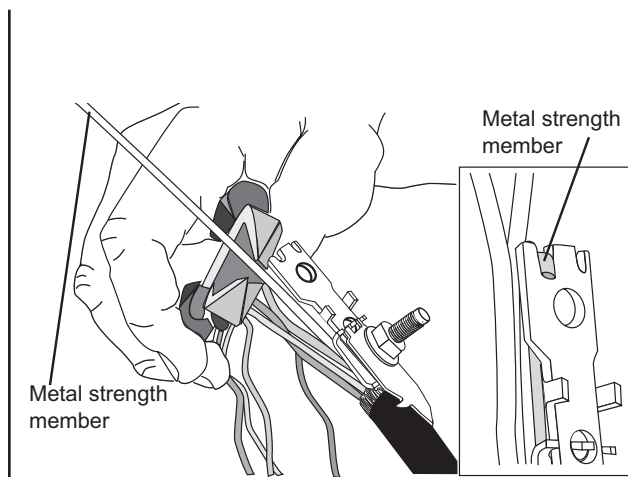

Figure 8
Step 4: Trim the central/strength member slightly shorter than the top of the extension bracket (Figure 8).
(When strength member is metal, bend it over the slots in the extension bracket as shown in the inset in Figure 8 and then trim excess strength member.)